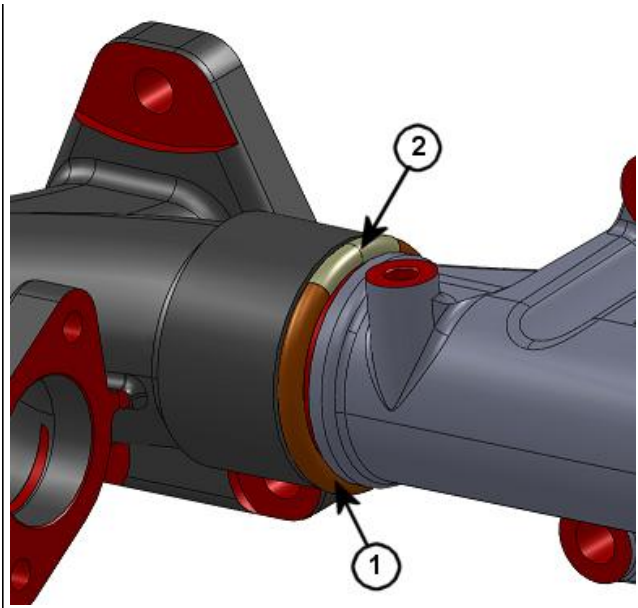

Figure 1 - Installing Packing
Step 1: **Installing the brown braided rope packing** (Figure 1)